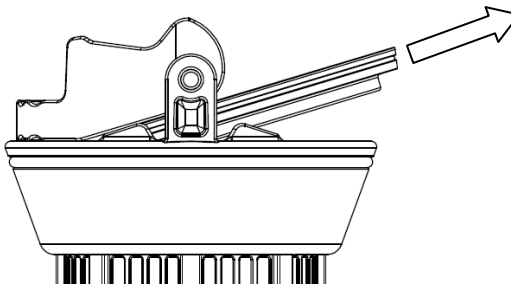

Fig. 8: Removal of bag ring from basket ring
- 2.1.1.3 Remove bag retention ring from basket assembly, by lifting the edge opposite the handle and pulling ring out at an approximately 20° angle. (See fig. 8.)
- 2.5.1.6 Remove bag retention ring from basket assembly, by lifting the edge opposite the handle and pulling ring out at an approximately 20° angle. (See fig. 8.)